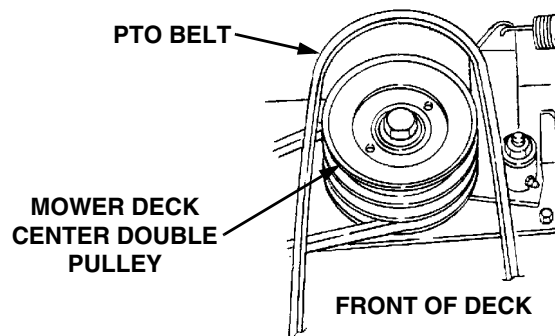
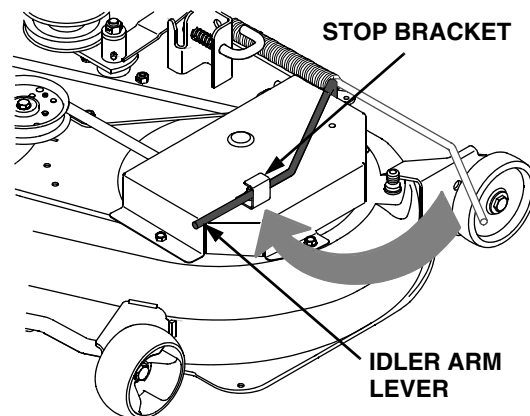

Figure 40
Figure 41
3. Remove the rearward end of the PTO belt from the upper pulley of the deck center double-pulley (Refer to Figure 40). Engage the deck idler arm lever back into its stop bracket (See Figure 41).